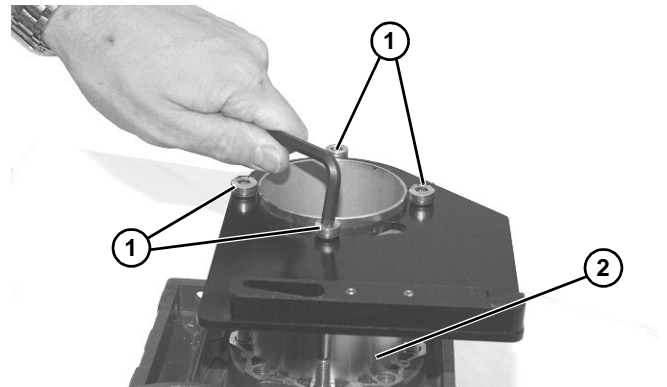

Figure 8
4. Remove the four (4) coupler housing screws (**Figure 8, item 1**) and remove the mounting bracket and coupler housing (**Figure 8, item 2**) as an assembly.